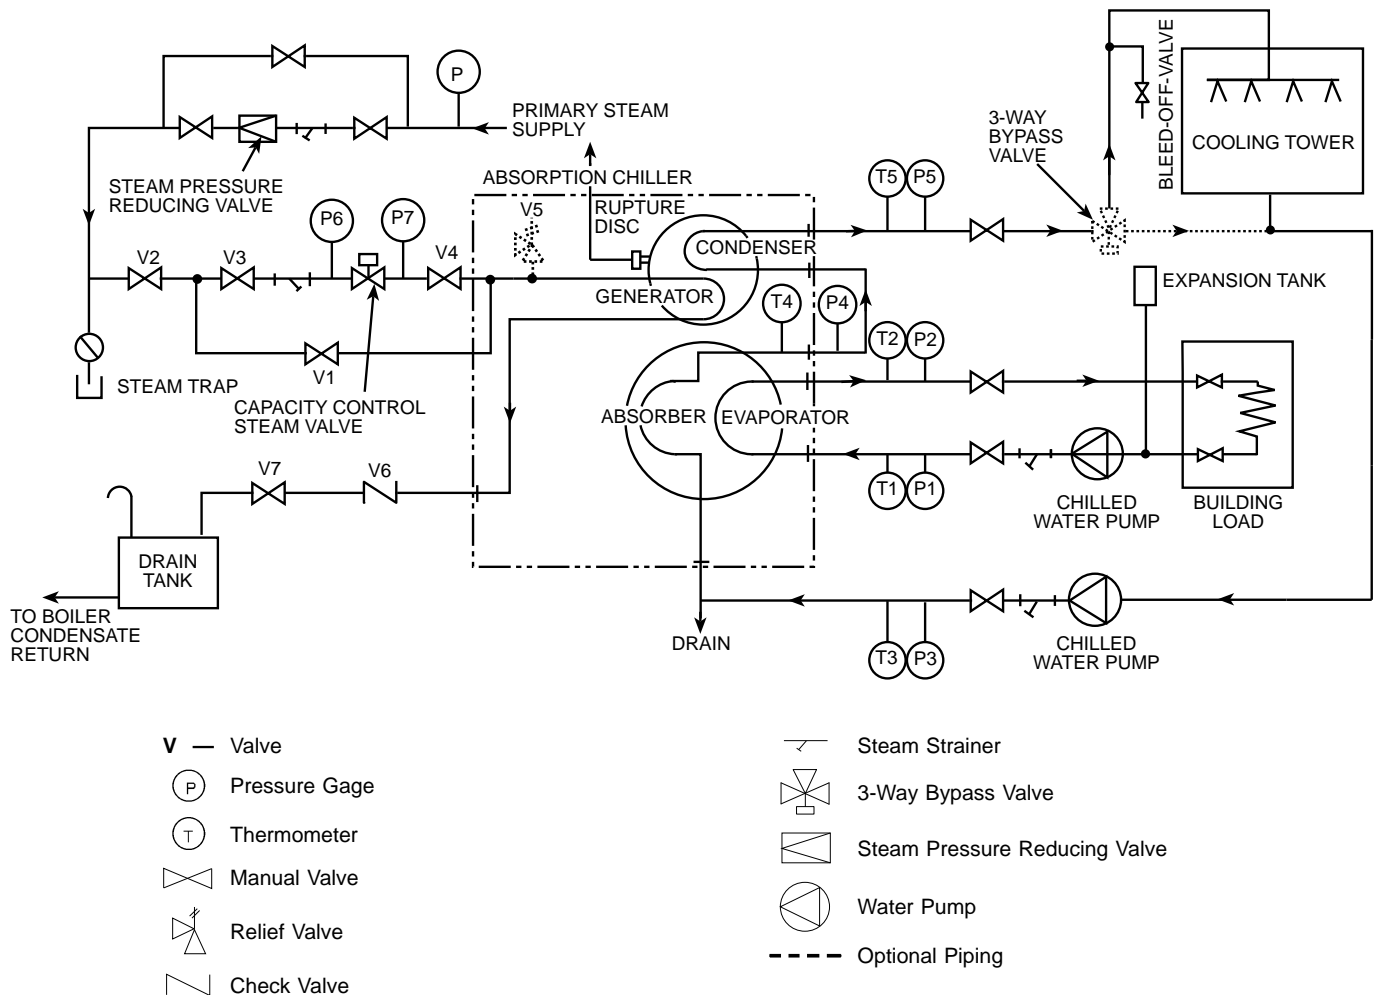

Fig. 14 — Typical Piping Schematic
Connect Water Piping — Install piping using job data, piping drawings, and procedures outlined below. Figure 14 shows a typical piping schematic.
8. Install thermometer wells and thermometers on the entering and leaving chilled water pipes (Fig. 14, Items T1 and T2), absorber entering and leaving cooling water pipes (Fig. 14, Items T3 and T4), and condenser leaving cooling water pipe (Fig. 14, Item T5). Thermometer wells should extend into the pipe a minimum of $\frac{1}{3}$ the pipe diameter.
9. Install pressure gage taps and pressure gages on the entering and leaving chilled water pipes (Fig. 14, Items P1 and P2), on the entering and leaving absorber cooling water pipes (Fig. 14, Items P3 and P4), and the cooling water pipe leaving the condenser (Fig. 14, Item P5).
Figure 14 shows a typical piping schematic. Refer to job data and certified drawings for data specific to your installation.
3. Locate the capacity control steam valve at least 3 ft (1 m) from the generator nozzle. For inspection and maintenance, a bypass line with a manual valve (Fig. 14, Item V1) should be installed around the capacity control steam valve. Also, a manual shut-off valve (V2) should be installed ahead of the capacity control steam valve. Install isolation valves (Fig. 14, Item V3 and V4) on the inlet and outlet sides of the capacity control steam valve. Piping must allow for thermal expansion and slope slightly toward the generator for condensate drainage.
4. Two pressure gages (Fig. 14, Items P6 and P7) with a pressure range of 0 to 200 psig (0 to 1400 kPa) should be installed before and after the capacity control steam valve.
5. If the primary steam supply pressure is above 125 psig (862 kPa), install a steam pressure reducing valve between the primary steam supply and the capacity control steam valve inlet (Fig. 14). Install a bypass valve around the steam pressure reducing valve, a steam strainer on the inlet side of the steam pressure reducing valve, and isolation valves around the pressure reducing valve.
6. If the steam supply pressure to the generator can exceed 114 psig (786 kPa), a safety relief valve (Fig. 14, Item V5) must be installed between the capacity control steam valve and the generator to limit the pressure to 114 psig (786 kPa). The safety relief valve should be vented to the outside of the building for safety.
7. Install steam condensate drain piping so that the back pressure at the connection to the chiller is less than 7 psig (48 kPa) to prevent condensate back-up into the generator tubes at low load conditions. Include a check valve (Fig. 14, Item V6) and manual shut-off valve (Fig. 14, Item V7) at the condensate drain outlet.